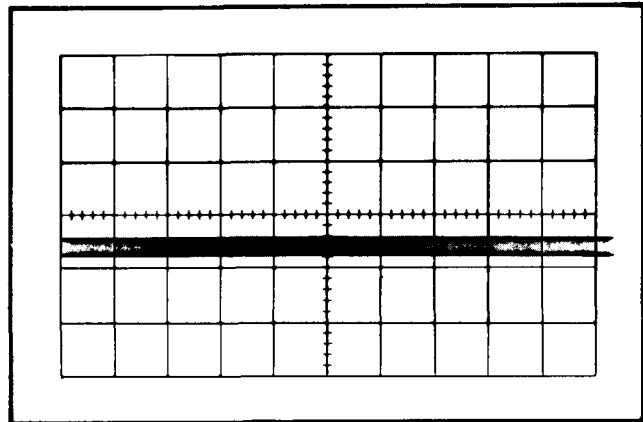

Fig. 5-10. Typical CRT display when checking common-mode rejection ratio.
- e. CHECK—CRT display for 0.8 division deflection, or less (common-mode rejection ratio 10:1 or better; see Fig. 5-10).